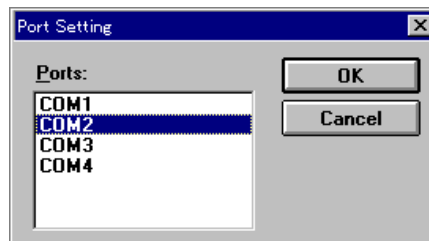

Figure 10.21 [Port Setting]
- (1) Click [Instruments] - [Port Setting] on the [Spectra Manager] menu. The dialog box shown in Fig. 10.21 appears.